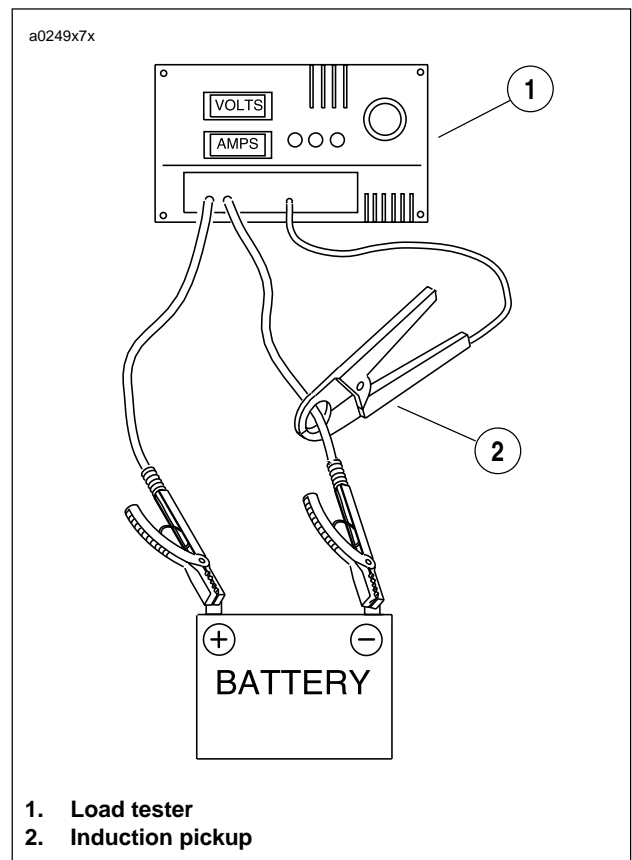

Figure 7-47. Checking Current Draw Using Load Tester with Induction Pickup (Ignition Switch ON)
1. See Figure 7-47. To check for this condition, place load tester induction pickup or current probe pickup over battery negative cable.